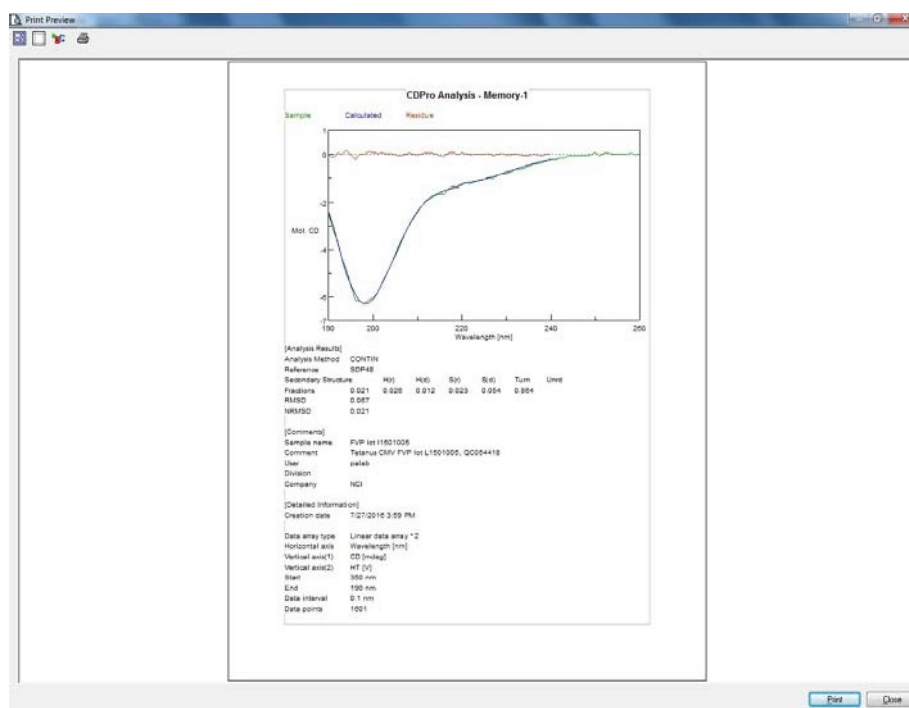

Figure 9. CDPro Report Printout.
6.1.7.3 Click 'Scale' to scale the CD spectrum or 'Print' for printing results. The results can be saved as an *.xps extension file, in the appropriate folder, and printed later (Figure 9).